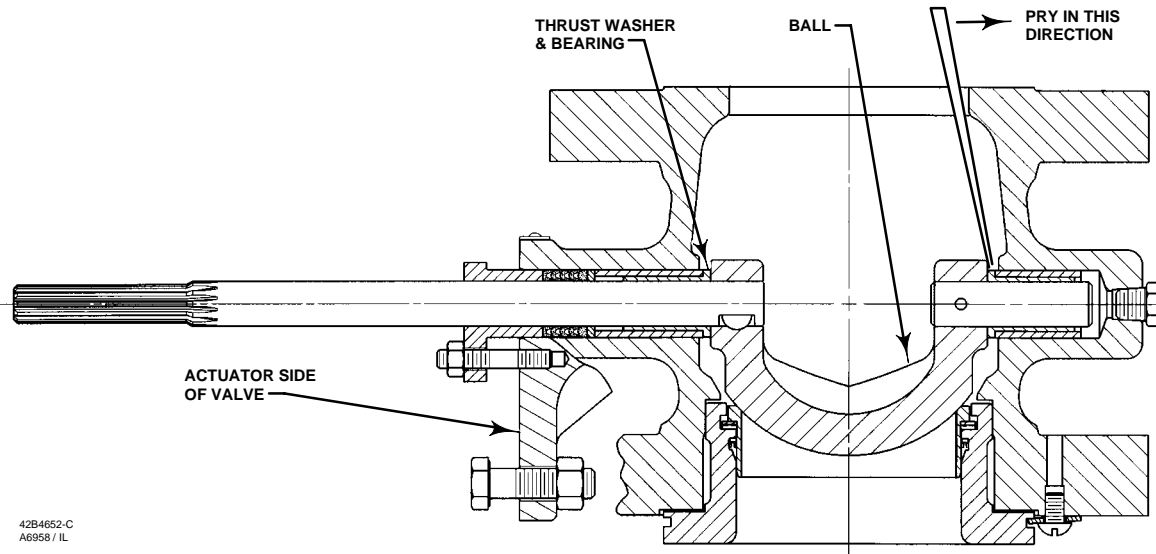

Figure 8. Typical V-Line Valve Showing Pry Bar
If the valve is equipped with the ENVIRO-SEAL Packing System, refer to the separate *ENVIRO-SEAL Packing System for V-Line and edisc Rotary Valves* instruction manual (see figure 8).
3. Remove the actuator cover. Note the orientation of the actuator with respect to the body and the lever orientation with respect to the valve drive shaft (see figure 8).
2. To help ensure correct centering of the V-notch ball (key 2) on the seal (key 11), make sure the ball is closed while you install or tighten new packing. Before installing the packing, close the ball. Insert a screw driver, pry bar, or similar tool between the lower ear of the ball and the valve body. Use the pry to move the ball tightly against the thrust washer and bearing on the actuator side of the valve (see figure 8). Keep the ball in that position until you have completed packing installation.
1. Thoroughly clean all parts that are to be re-used and obtain replacement parts. Be sure that all sealing surfaces are in good condition without scratches or wear. If the valve has been installed between line flanges and the flange studs and nuts have been tightened, always replace the gasket (key 15) with a new gasket.
2. To help ensure correct centering of the V-notch ball (key 2) on the seal (key 11), make sure the ball is closed while you install the seal or flow ring and seal protector ring. Insert a screw driver, pry bar, or similar tool between the lower ear of the or ball and the valve body (see figure 8).